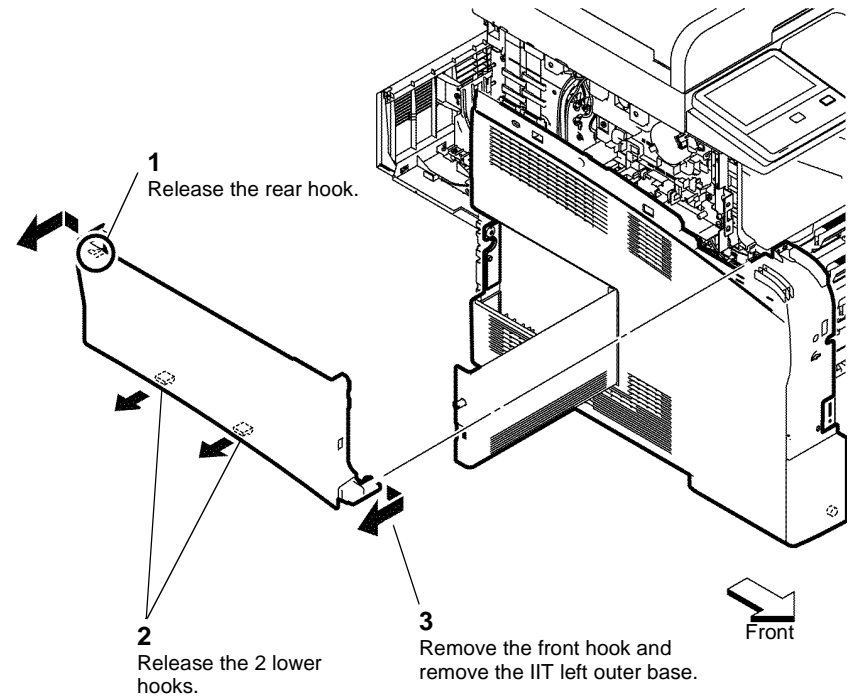

Figure 1 IIT Left outer base C405
- Remove the IIT left outer base C405, Figure 1.